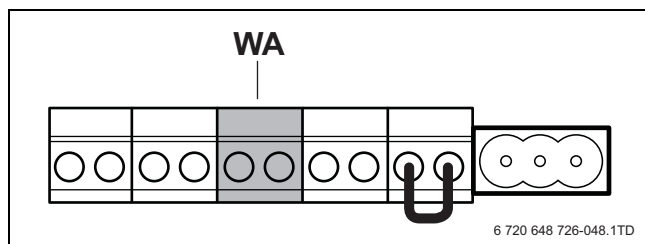

Fig. 48 Terminal strip - potential-free heat demand (connection colour green)
- ▶ Connect the potential-free heat demand contact to the green WA terminal (→ fig. 48). The maximum allowed resistance of this circuit is 100 Ω. Use a 2-core cable of 0.75 mm².
- ▶ Connect the 230 Volt converter (grey box) via the pair of black low voltage cable to terminal WA. (→ figure 48).